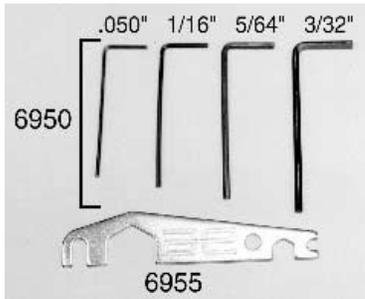

Fig. 1
□ **Fig. 1** Before we start to assemble the front end, remove the #6955 shock/turnbuckle wrench and the #6950 tool bag (which contains the four Allen wrenches) from the kit master bag. Set them aside, we will be using them throughout the assembly.